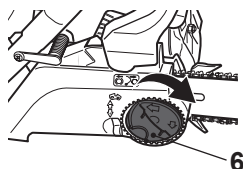
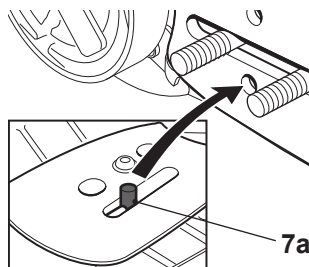

Fig. 8
Fig. 9
- > Refit the cover (8) and slightly tighten the locking wheel (6) (Fig. 8). Make sure the tension pin (7a) is inserted into the lower hole on the guide bar (Fig. 9).